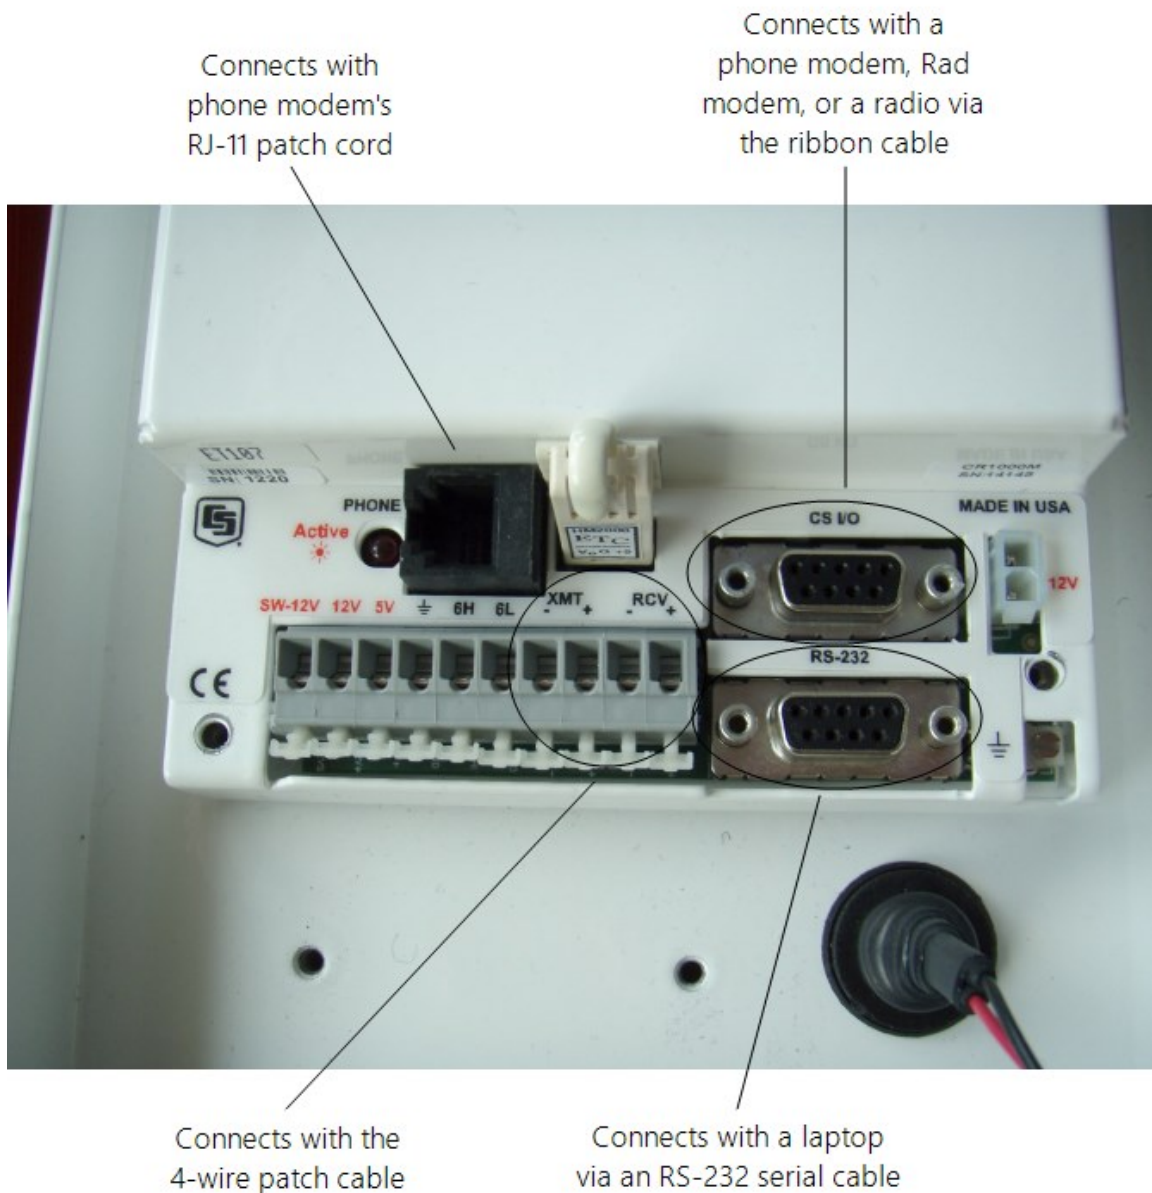
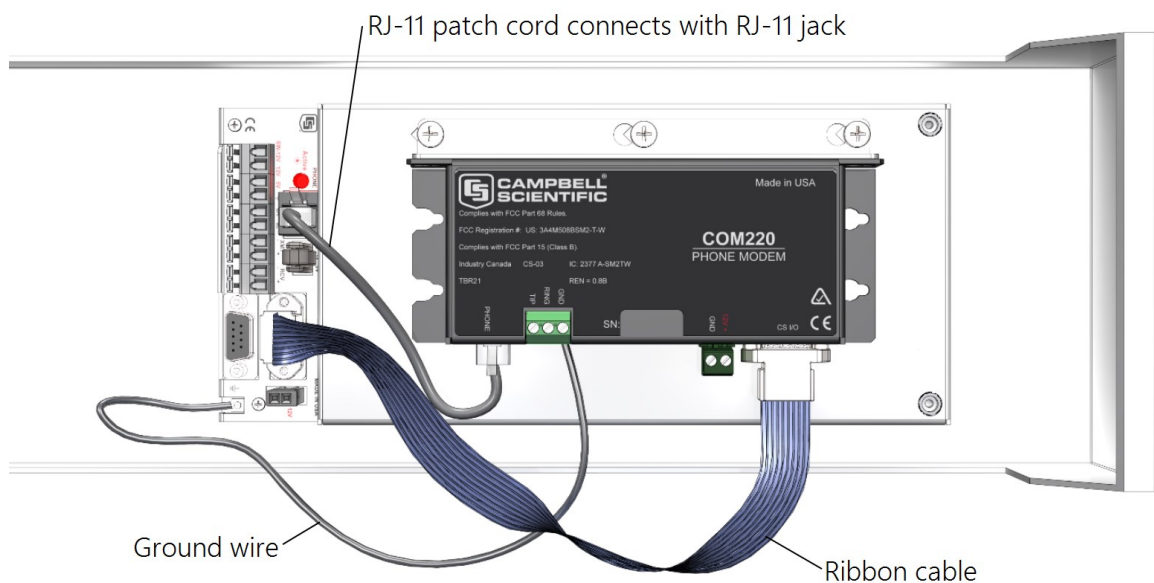

FIGURE 6-22. Close-up of the terminals and 9-pin ports in the T107 (battery not shown)
FIGURE 6-23. Phone modem mounting and connections (battery not shown)
The T107 station does not require an interface device for direct RS-232 communications. The inside of the enclosure has a RS-232 and CS I/O port available for communications (see FIGURE 6-22 (p. 36)). Most standard communications options use the CS I/O port leaving the RS-232 port free for direct communications with a laptop or desktop computer using a standard RS-232 serial cable. The data logger used in the T107 station can communicate with more than one device at a time allowing troubleshooting to be done in the field with a laptop computer while remote communications devices are accessing the station.
Use the following procedure to install the phone modem (FIGURE 6-23 (p. 37)).
2. Connect the modem 9-pin port to the enclosure CS I/O port with the ribbon cable supplied with the enclosure (FIGURE 6-22 (p. 36), FIGURE 6-23 (p. 37)).
3. Connect the modem RJ-11 jack to the enclosure RJ-11 jack with the RJ-11 patch cord (FIGURE 6-23 (p. 37)).